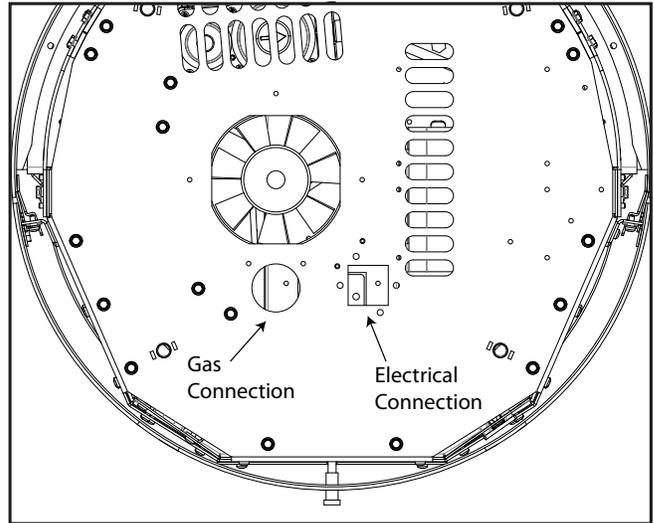

Figure 76: Gas & Electrical Connection Points (Bottom View)
4. Rewire the IEC electrical outlet and position over the hole shown in Figure 76.